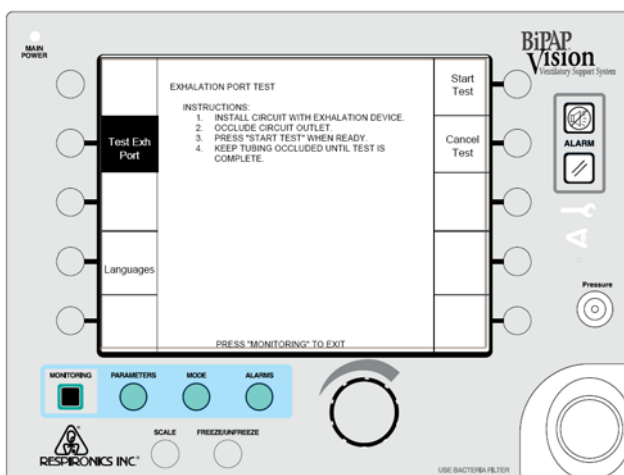

Figure 7-2: Exhalation Port Test Screen
3. At the exhalation port test screen (Figure 7-2), press **Test Exh Port**.